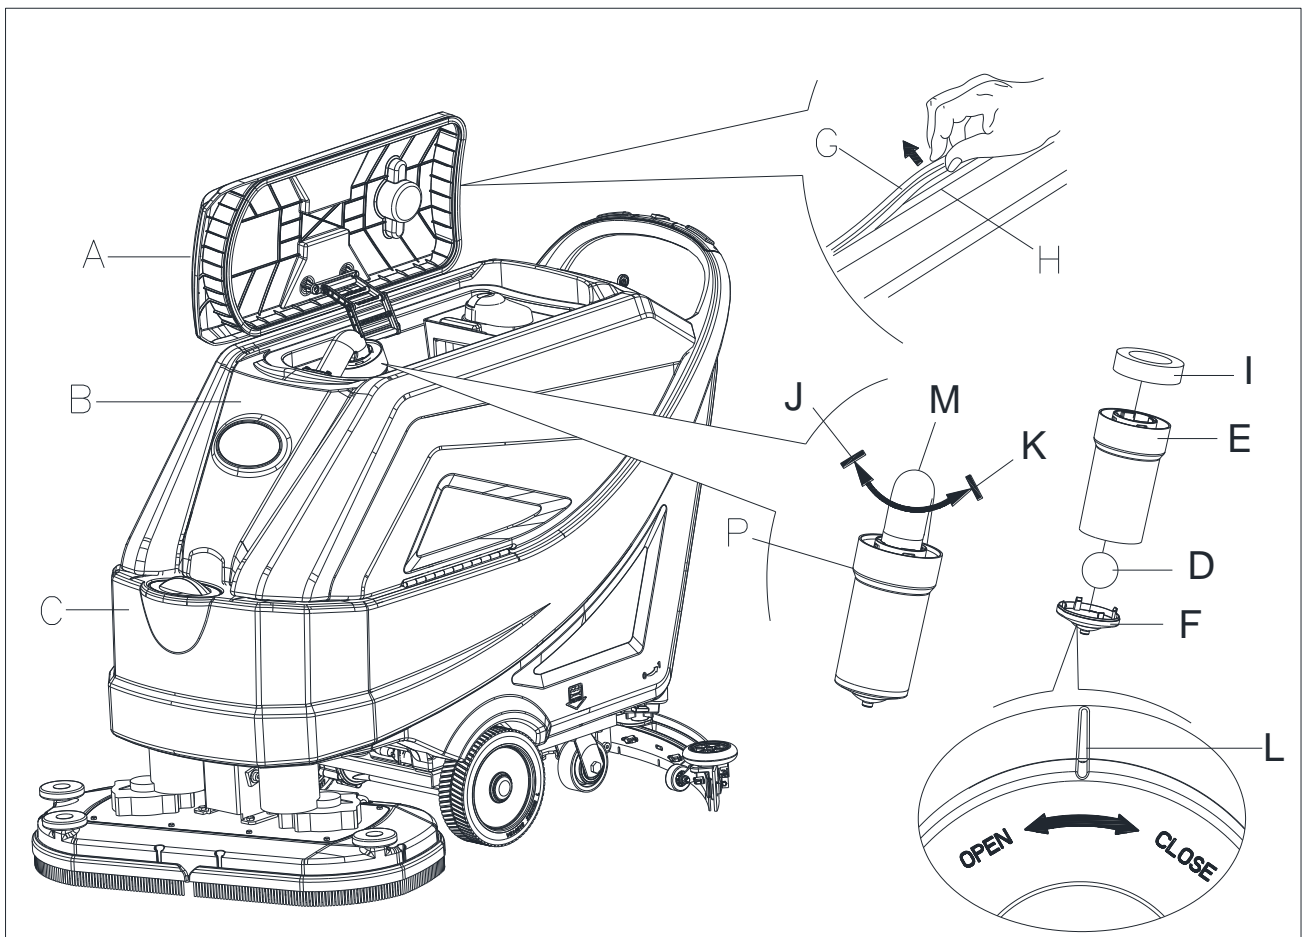

Figure 29
3. Open the recovery tank lid (A, Figure 29) to a 90degree position, and then remove the ball float filter (P) from the tank.
4. Clean the recovery tank lid (A), recovery tank (B), and the float ball filter support frame (E). Empty the recovery tank with the drain hose.
5. If necessary, follow the symbols “OPEN” and “CLOSE” as shown in (Figure 29)to open the bottom cover (F) of float ball filter and then clean the float ball (D), filter support frame (E) and filter sponge (I). After cleaning, fix the float ball (D) into the filter support frame (E) and then align the mark groove (L) of the bottom cap (F) of the float ball filter with the mark groove (L) of the float filter support frame (E). Screw the bottom cap of the float ball filter tight, and fix the filter sponge (I) onto the float filter support frame (E). Finally, connect it to the vacuum standpipe (M).
7. Check whether the contact surface of sealing strip (G) is good condition and sealing is sufficient. If necessary, take the sealing strip out of the groove (H) and replace it. Assembly the new sealing strip as shown in (Figure 29), the joint should be back in the middle area.
8. Close the recovery tank lid (A).